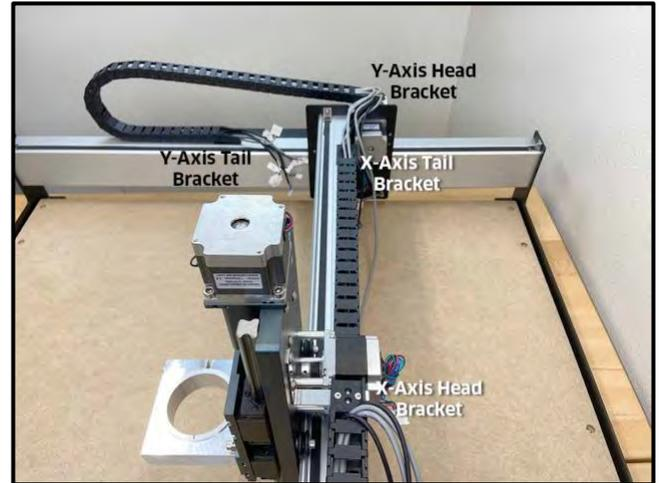

Figure 36
3. Secure the drag chain to the rails. See **Fig. 36**.
- i. Use a 2mm hex key, needle nose pliers, two (2) M3×8mm FHS, and two (2) nyloc nuts to secure.
- ii. Use a 2mm hex key and one (1) M3×6mm FHS to secure.
- i. Use a 2mm hex key and one (1) M3×6mm FHS to secure.
- ii. Use a 2mm hex key, needle nose pliers, two (2) M3×8mm FHS, and two (2) nyloc nuts to secure.